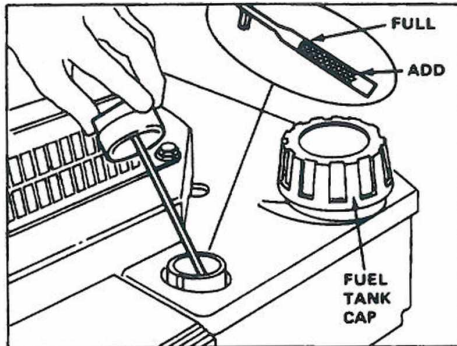

Figure 4
3. Wipe dipstick and insert it into filler neck. Rotate cap clockwise 1/4 turn. Then remove dipstick and check level of oil (Fig. 4). If level is low, add only enough oil to raise level to FULL mark on dipstick. **DO NOT FILL ABOVE FULL MARK BECAUSE ENGINE COULD BE DAMAGED WHEN STARTED.**
1. Clean around fuel tank cap and remove cap from tank (Fig. 4). Using unleaded gasoline, fill fuel tank to within 1/2 inch (13 mm) from top of tank.